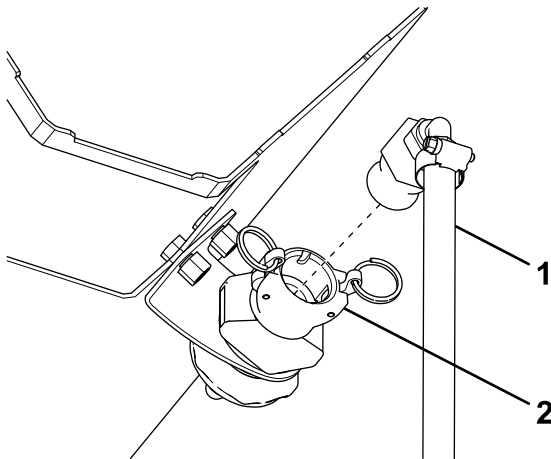

Figure 56
8. Connect the dump hose quick coupler to the nozzle quick coupler and lower the latches to lock it in place (Figure 56).
12. Raise the latches on the quick coupler and remove the dump hose (Figure 56).